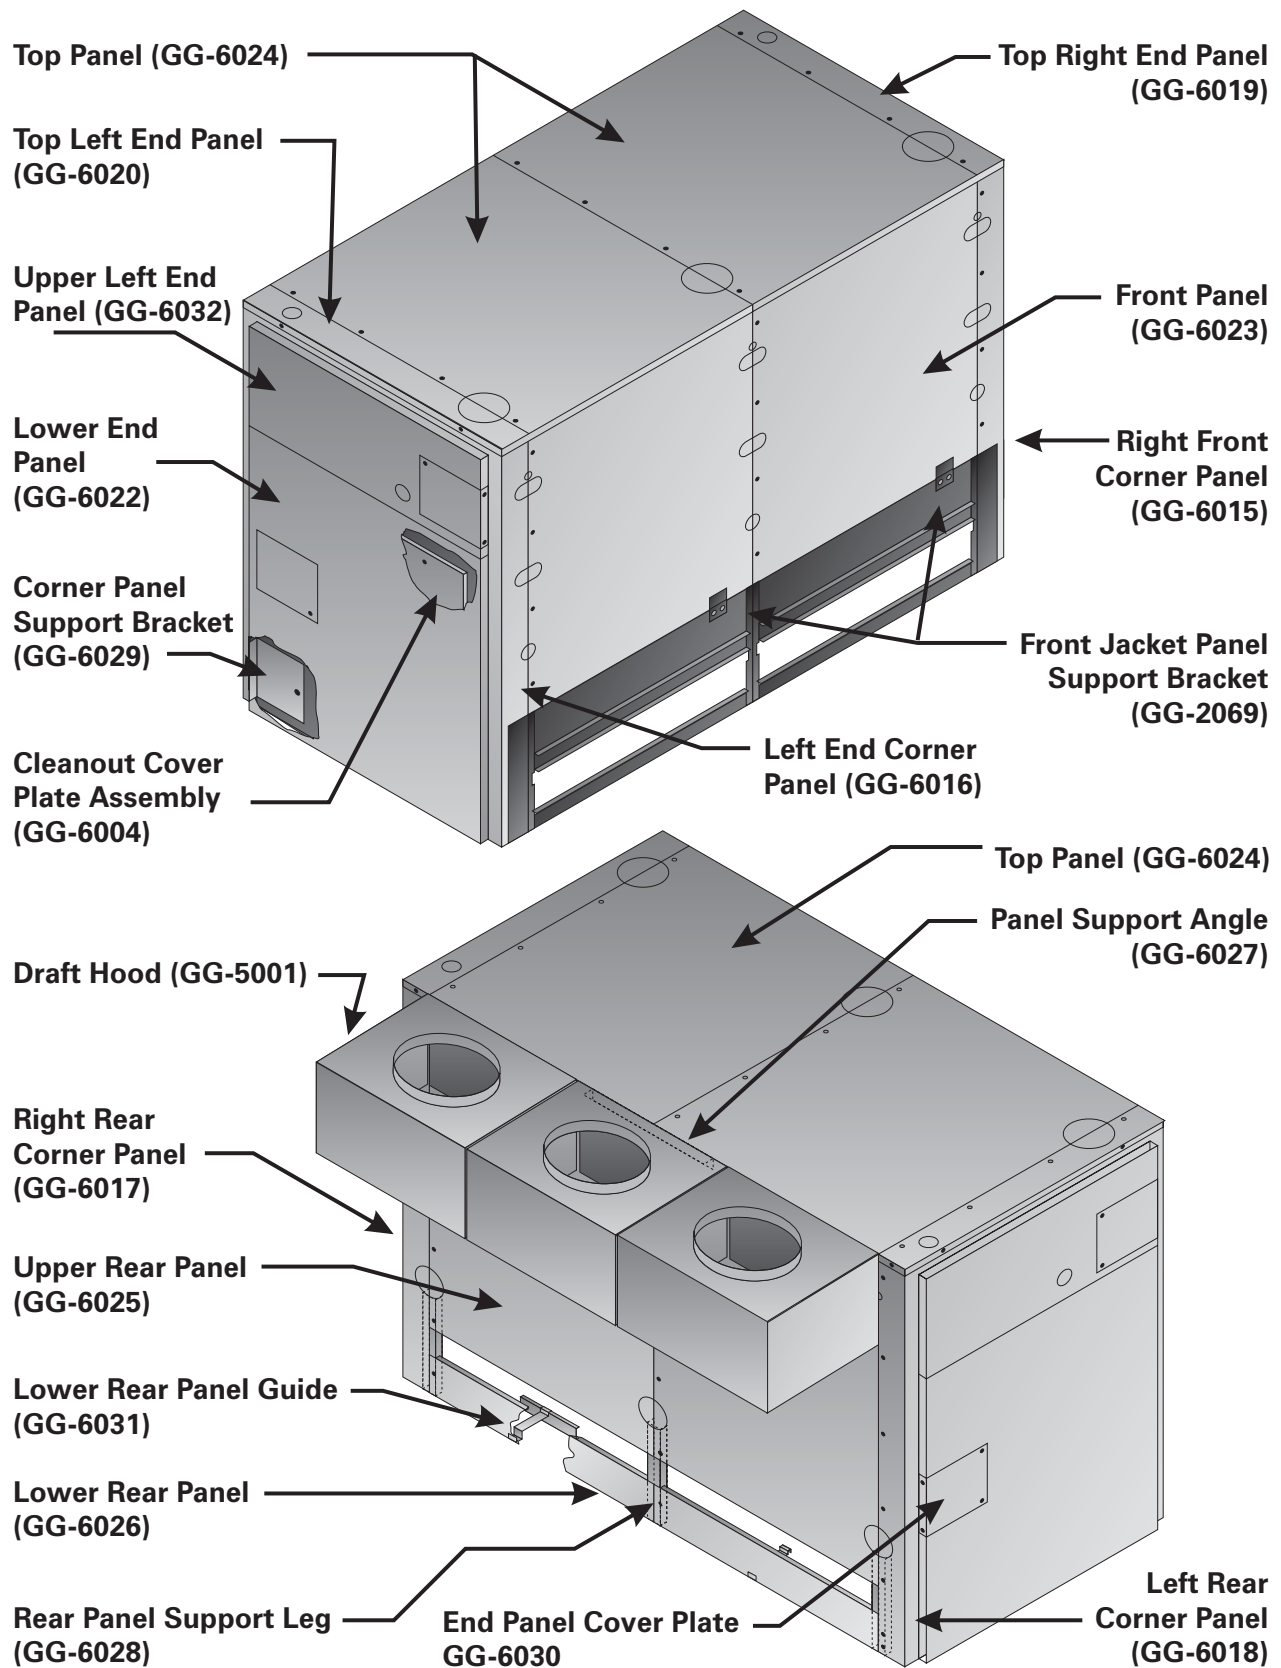

Figure 6.2: Jacket Assembly
2. See Figure 6.2 for the Jacket Assembly. Use these drawings for part identification and location.
7. Attach the Lower Rear Panel Guide (GG-6031) to the Rear Base Panel as shown in Figure 6.2.
- Make sure to slip the Front Panels into the Front Panel Support Brackets (mounted on the base). See Figure 6.2.
- Install a Panel Support Angle on the inside top of the Upper Rear Panel (See Figure 6.2). Use #10 x 1/2" (13 mm) long sheet metal screws.
Table 6.1: Jacket and Draft Hood Carton Contents – See Figure 6.2 for Placement of Jacket Sections